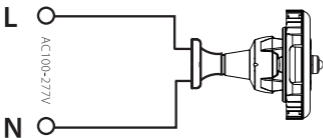
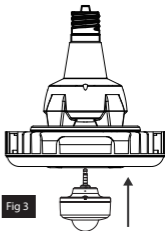

Fig 2
Fig 3
**Step: 2** Make sure the Alternating Current (AC) wires connect to the socket directly. Screw the Lightcloud lamp into the corresponding socket as shown in Figure 2. Attach retrofit label to luminaire (included in box). Plug the Lightcloud module securely into the auxiliary port on lamp as shown in Figure 3.